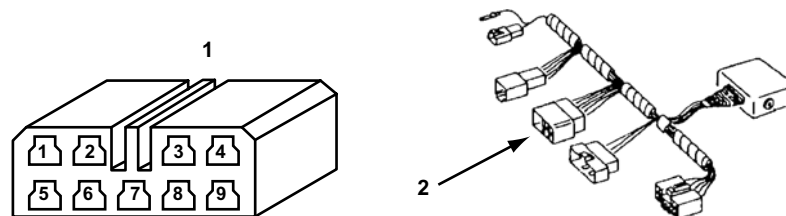
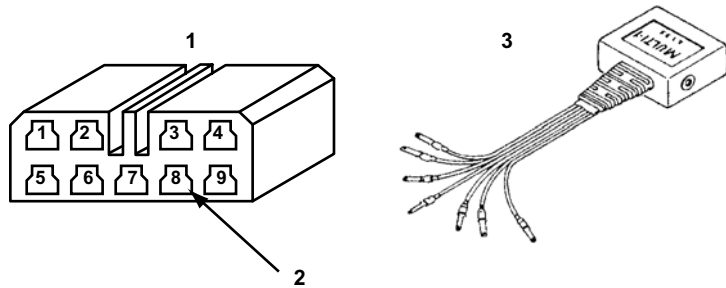

Figure 15-17 9-pin Check connector and MULTI-2C
Figure 15-18 9-pin Check connector and MULTI-1
- Codes can be read using a MULTI-2C or a MULTI-1 adapter. To read codes, connect the MULTI-2C adapter to the Check connector (Figure 15-17) or connect the blue wire of the MULTI-1 adapter to pin 8 of the Check connector (Figure 15-18).